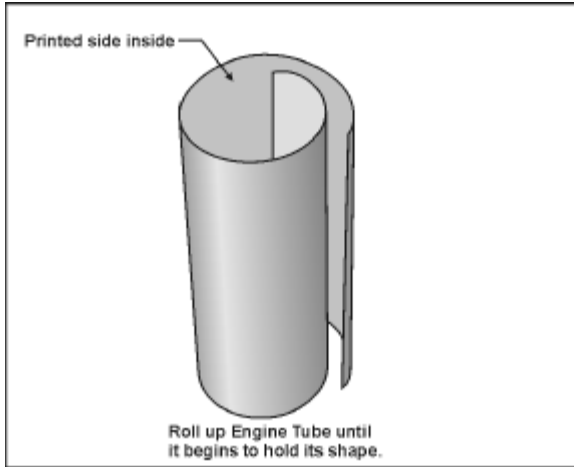

Figure 4
4. Roll the Engine Tube pattern, print side inside, such that it begins to hold its shape, as shown in **Figure 4**. An easy way to begin this curling of the paper is to hold it in the palm of your hand, print side up, and firmly rub it along a sharp corner, like the underside